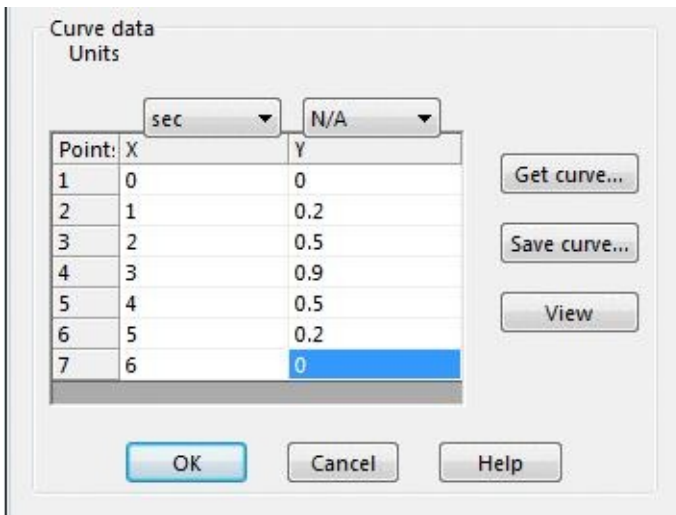

Figure-7. Curve data table with custom values
- Enter the data related to amplitude in the table; refer to Figure-7.